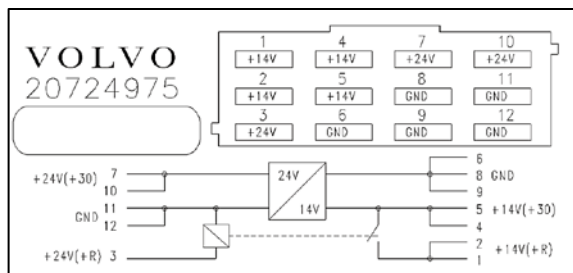

FIGURE 16
25. Use the electrical diagram shown in Figure 16 to verify the connections.